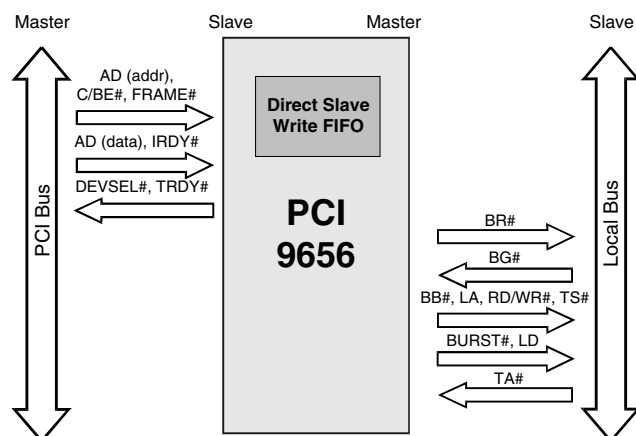

Figure 3-6. Direct Slave Write
**Note:** Figure 3-6 represents a sequence of Bus cycles.